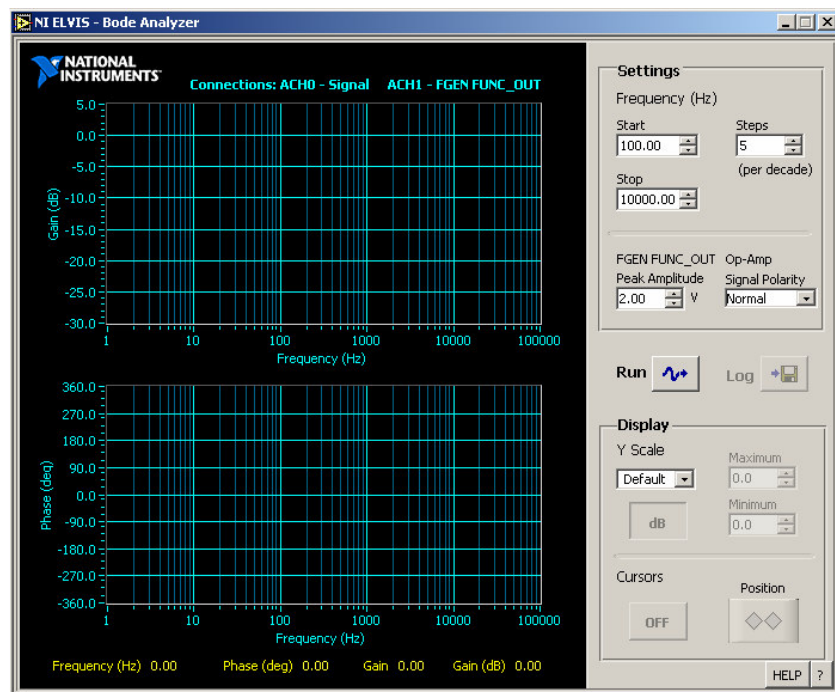

Fig. 15. Uninitialized NI Elvis Bode Analyzer window.
3. From the NI Elvis instrument Launcher, select Bode Analyzer. The initial Bode Analyzer SFP should appear as shown in figure 15.
5. Bode analyzer provides the flexibility to automatically scan the input signal frequency over a range specified by Start/Stop frequency values. The incremental value used during this frequency scan can also be set to a specific value. All these controls can be seen in figure 15.